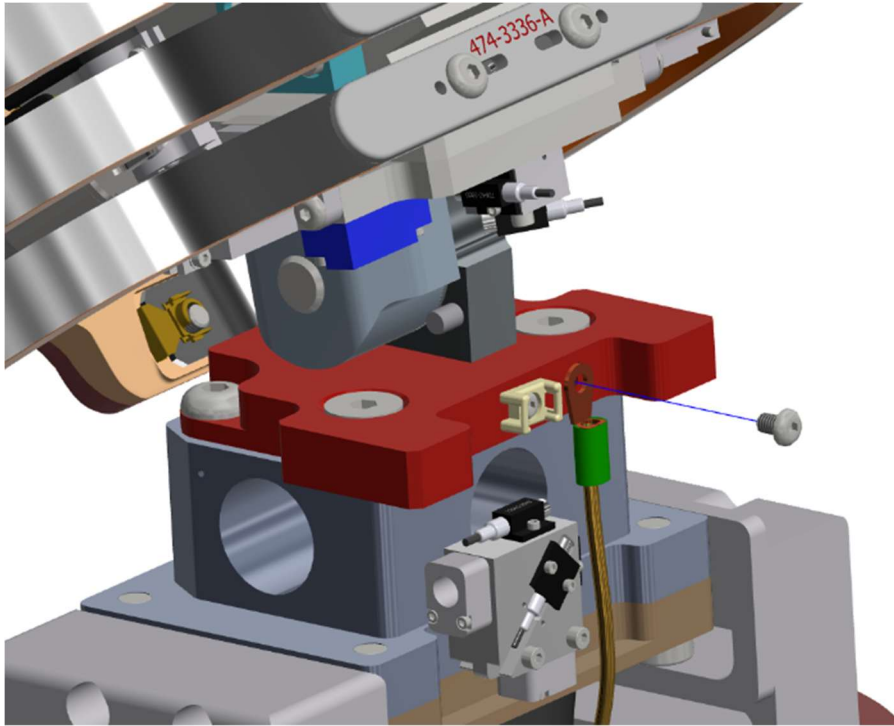

Figure 5-11. Remove the ground cable
- 5.2.5 Remove the ground cable from the Lumbar Posture Adjustment Base Plate (474-3220-A) by removing one M4 X 0.7 X 6 LG. BHCS (Figure 5-11).